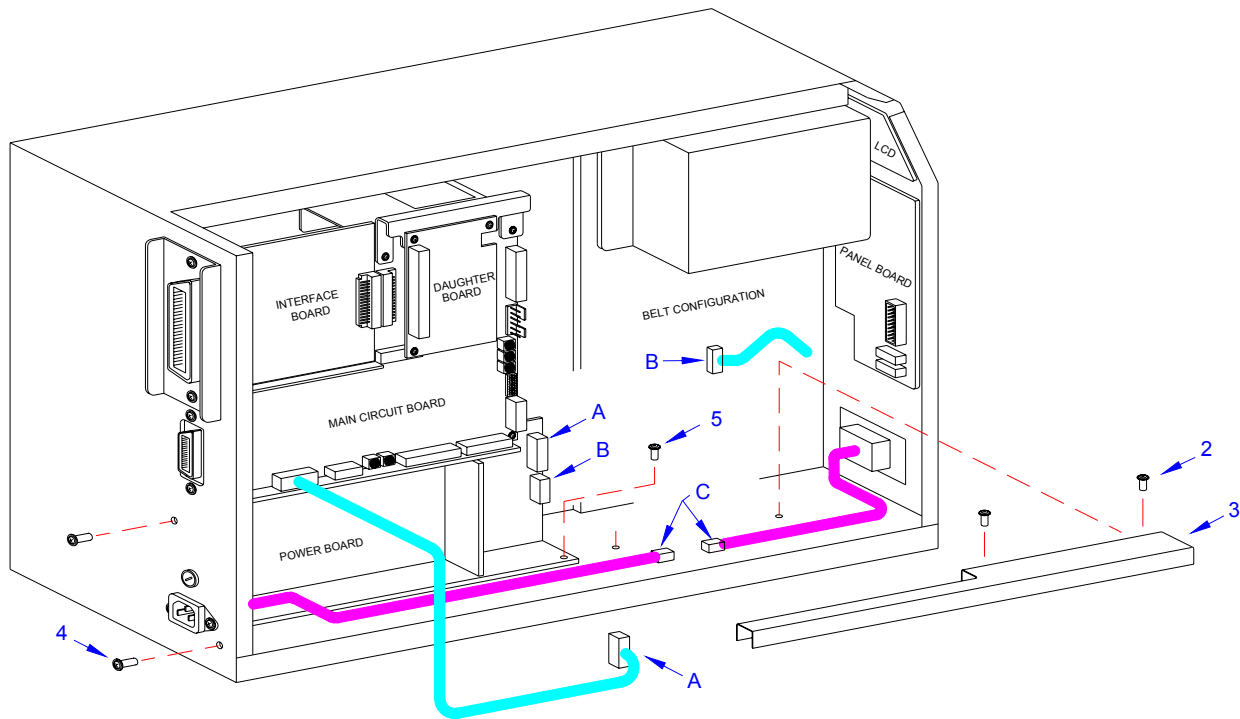

Figure 7-5, Power Board Replacement
- 3 Locate power board (1, Figure 7-5) in the lower left corner of the printer.
- 4 Disconnect circuit board wiring harness (A) from power board (1).
- 5 Disconnect cutter harness (B) from power board (1) if applicable.
- 6 Remove two screws (2) securing cable guard (3) to printer base.
- 7 Lift away cable guard (3) and disconnect power supply harness (C).
- 8 Remove two screws (4) from the exterior back side of printer.
- 9 Remove one screw (5) from the interior securing power board (1) to the printer housing.
- 10 Manipulate power board (1) from within the printer.
- 11 Insert replacement power board (1) into printer housing oriented so that the power receptacle protrudes from the rear.
- 12 Secure power board (1) to the printer using screw (5) and two screws (4).
- 13 Connect power supply harness (C) and cover with cable guard (3).